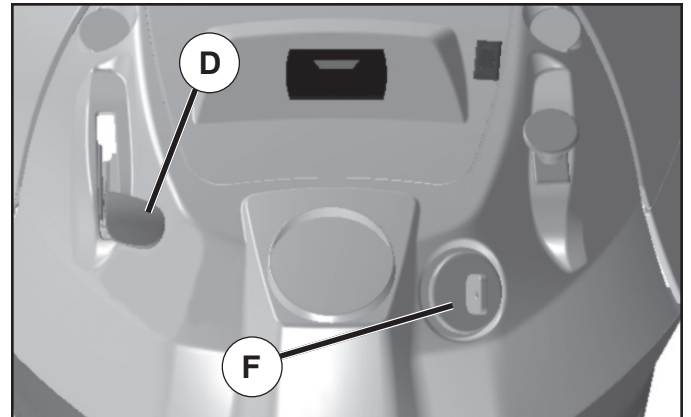

Fig. 6
- Move throttle control (D) between half and full speed (fast) position.
- Turn ignition key (F) to "STOP" position and remove key. Always remove key when leaving tractor to prevent unauthorized use.
### TO USE THROTTLE CONTROL (D) (See Fig. 6)